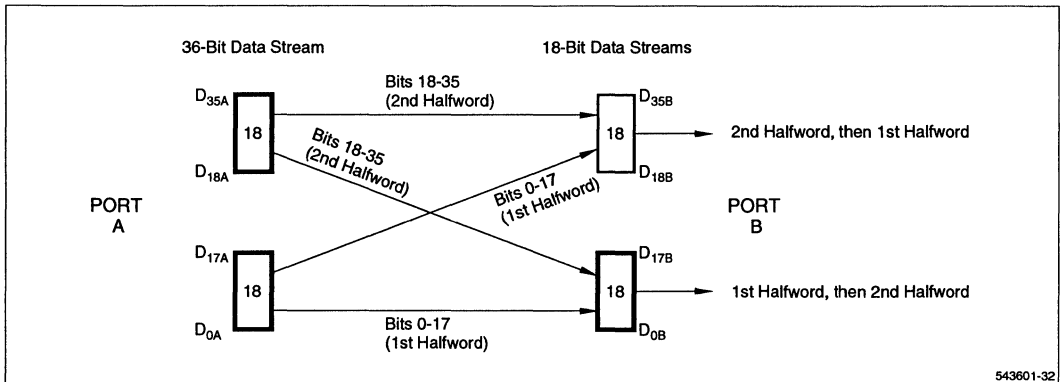
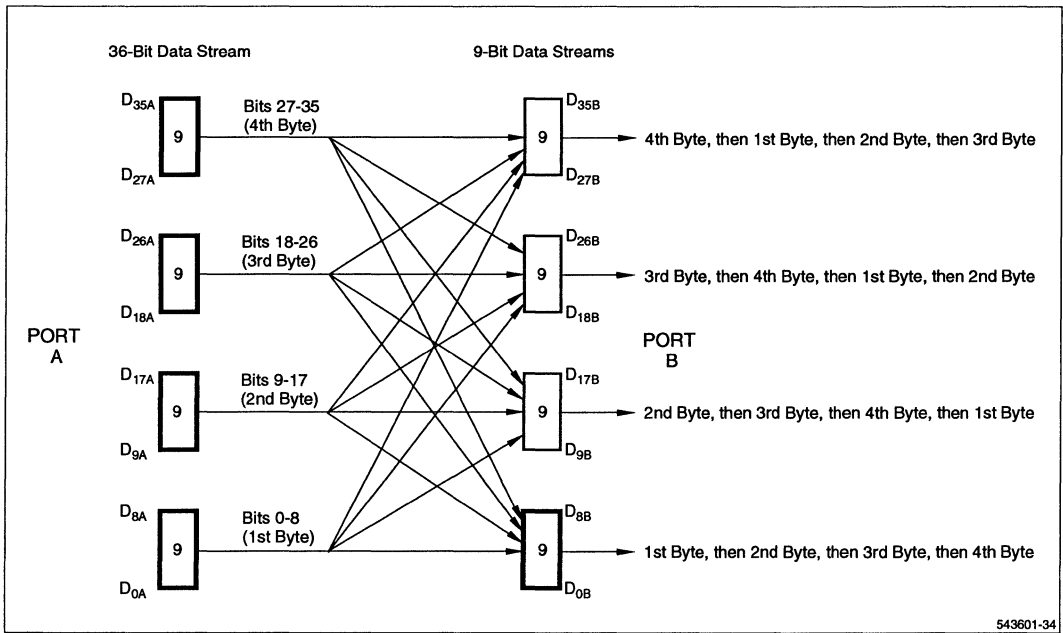

Figure 6a. 36-to-18 Funneling Through FIFO #1
Figure 6b. 36-to-9 Funneling Through FIFO #1
Note that the programmable word-width-matching feature is *only* supported for FIFO accesses. Mailbox and Data Bypass operations do *not* support word-width matching between Port A and Port B. Tables 2, 3a, 3b, 4a, and 4b, and Figures 6a, 6b, 7a, and 7b summarize word-width selection for Port B.
2. The funneling process does not change the ordering of bits within a byte. Halfwords (Figure 6a) or bytes (Figure 6b) are transferred in parallel form from Port A to Port B.